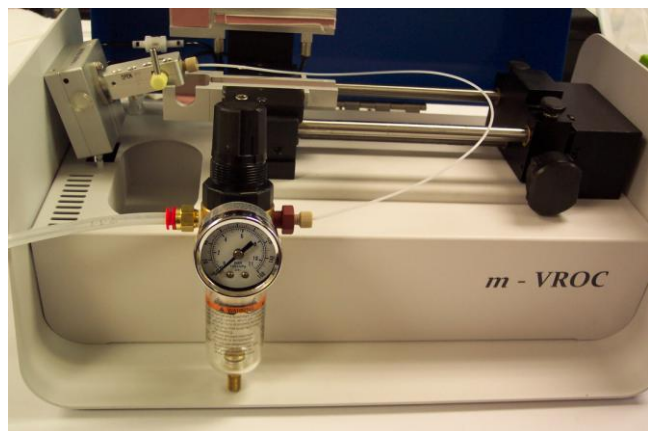

Figure 1: Compressed Gas Coupler Connection
- a. Connect the Compressed Gas Coupler, to any pressurized air or inert gas line to the inflow port of the coupler (Figure 1). Make sure to use a very clean dry air or N₂ gas and set the output pressure at 1 psi.